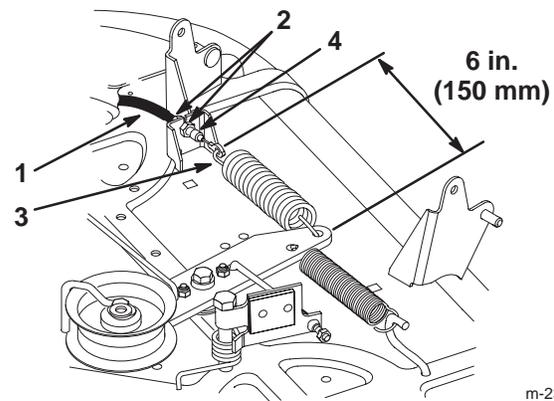

Figure 45
- Engage the blade control (PTO) lever on the dash. Measure the distance between the hook ends of the idler spring (Fig. 45). Adjust the jam nuts until a 6 in. (150 mm) dimension is obtained (Fig. 45).